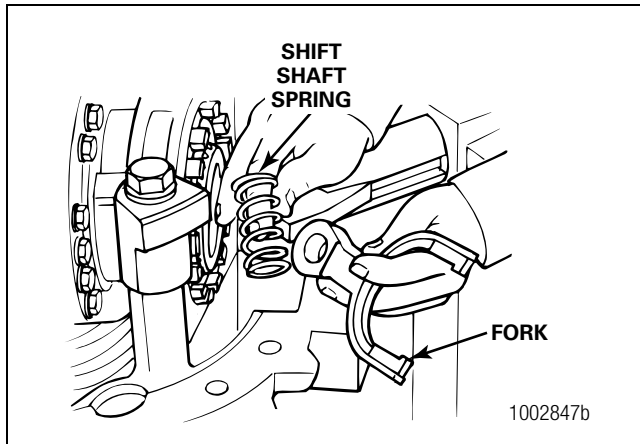

Figure 6.11
10. Remove the shift shaft spring and fork from the carrier. Figure 6.11.